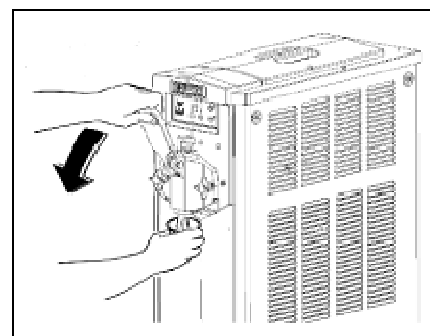

Fig. 5
- **E**mpy the cylinder and repeat the same steps until the water coming out is clear (fig. 5).